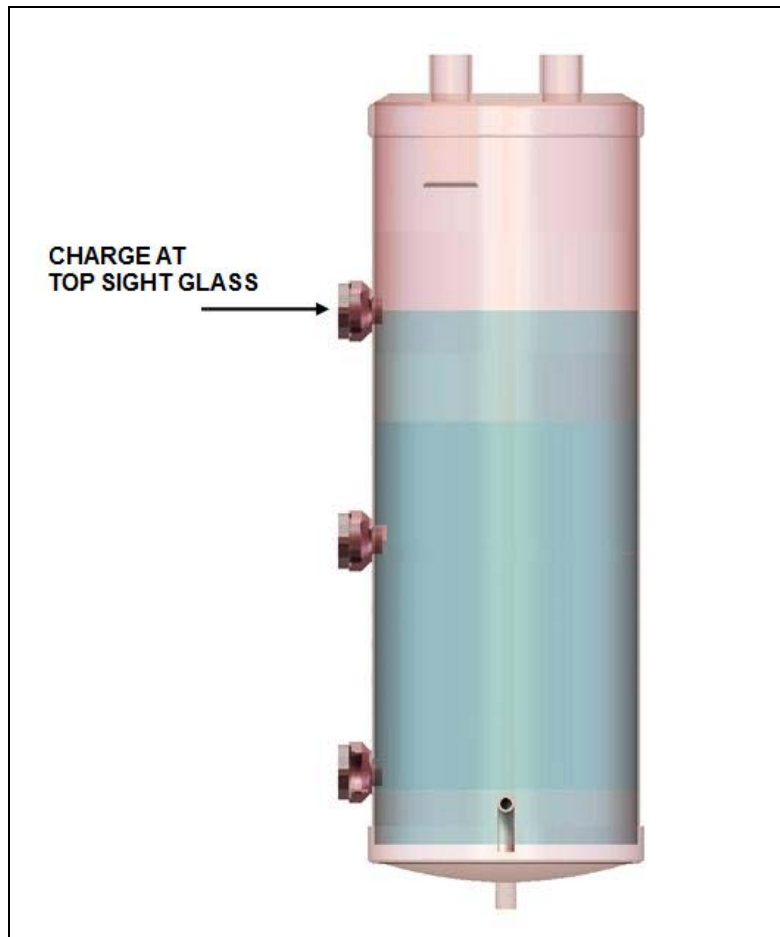

Figure 29. Charge at Top Sight Glass
9. While the system is still operating in **HEAT** mode, add refrigerant to the system to bring the liquid refrigerant level up to the top sight glass on the ACC. See Figure 29. Document the total weight of refrigerant charge in the system.